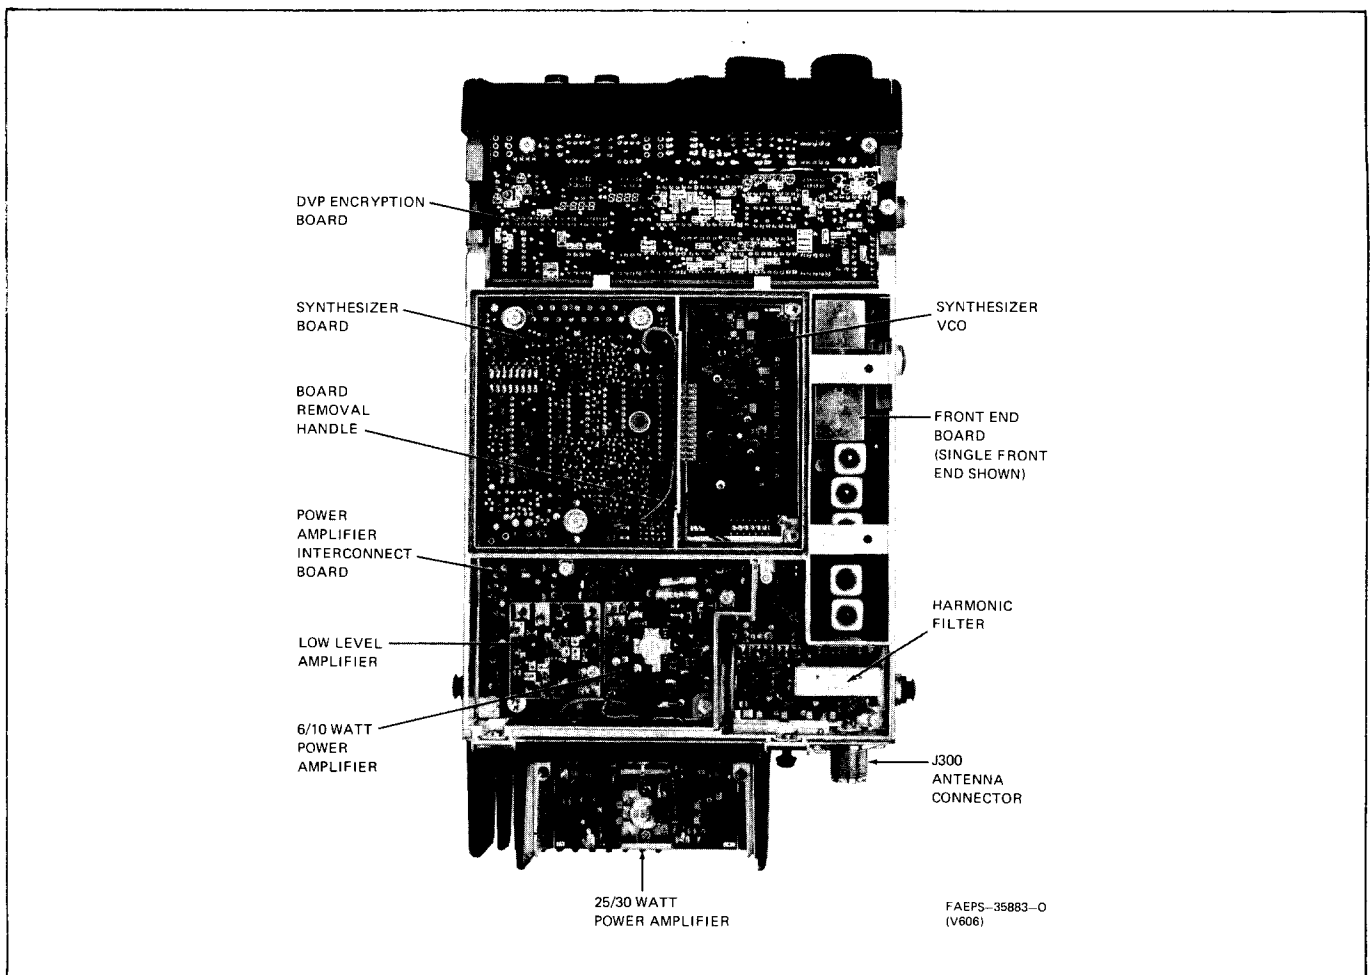

Figure 2. DVP MCX100 Radio Set-Bottom Cover Removed
3.4 30 WATT POWER AMPLIFIER (Refer to Figure 2)
(Refer to Figure 2)